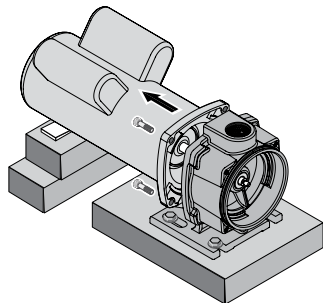

Figure 5
6. Pull the pump seal (Ref. No. 9) (see Figure 5) by pulling it straight forward. Be careful to not damage the O-rings on the bracket and suction body.
10. Support the motor so that the shaft is free of the weight of the motor when you loosen the cap screws holding the motor to the bracket. Remove four cap screws (Ref. No. 2), and slide the motor and shaft out of the bracket (see Figure 5).